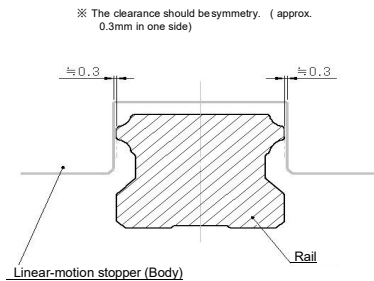

Fig. 4
- Adjust the clearance between linear-motion stopper and rail. (Refer to fig. 4.)